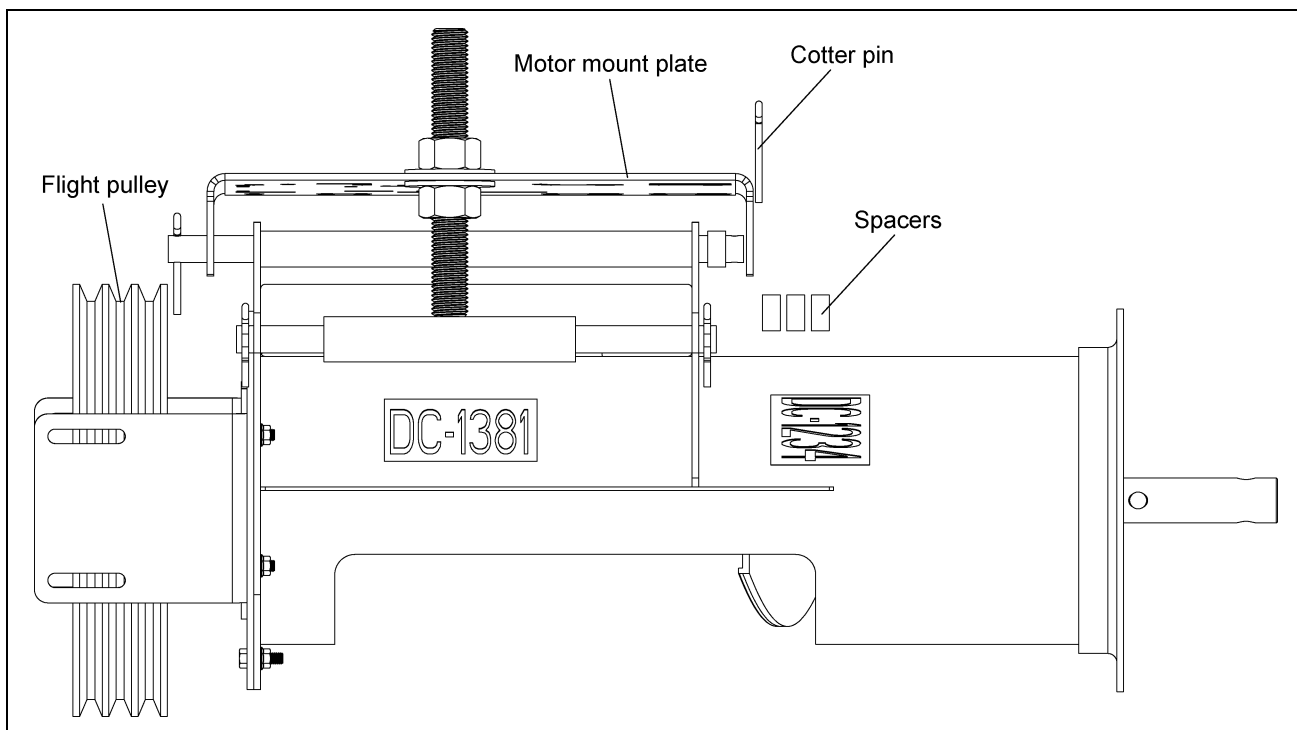

Figure 4L
- Install pulley onto motor shaft making sure that it is aligned with the flight pulley. It may be necessary to move spacers to gain shaft alignment. *(See Figure 4L.)*